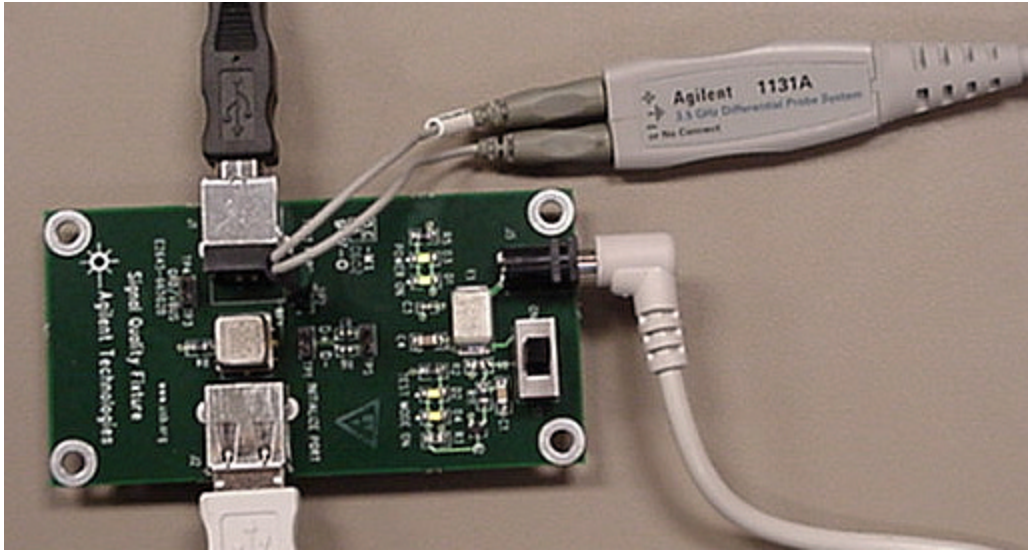

Figure 10. Differential Probe Connection on Host Test Fixture
3. Attach the differential probe to TP2 of the test fixture, using the header adapter as shown in Figure 10...